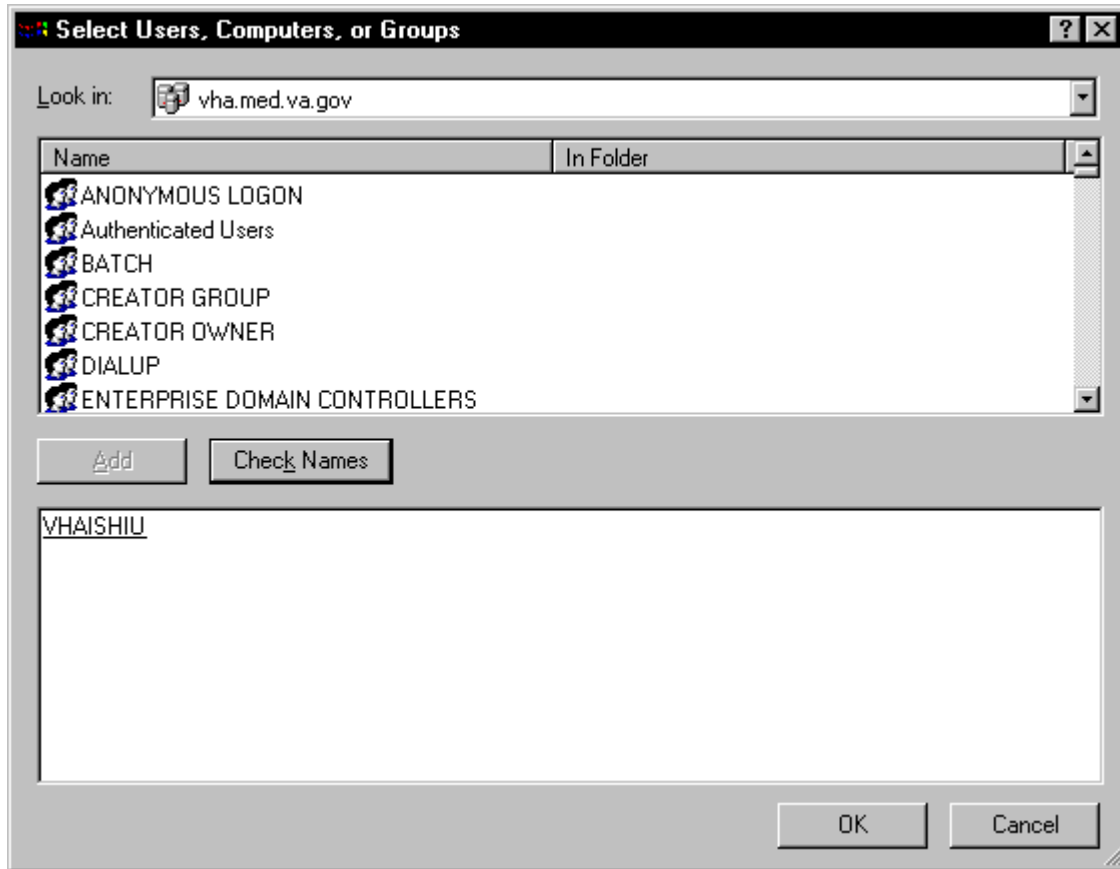

Figure 13-4
7. Enter the name of the VistA Imaging (VHAISHIU) User (IU) into the bottom window and click **Check Names**. A line is displayed under the name if it is valid. Click **OK** to add the user (Figure 13-4). The Select Users, Computers, or Groups window closes and VHAISHIU is displayed in the Permissions dialog box.